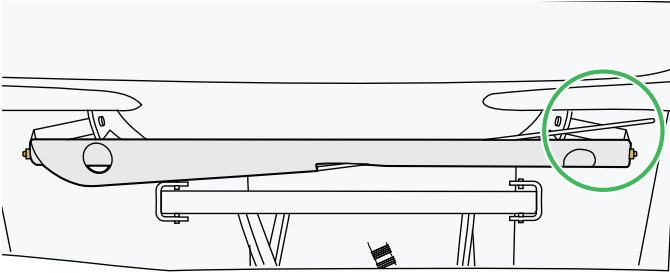

Figure 25
2. Secure the curtain with the rod. See Figure 25.